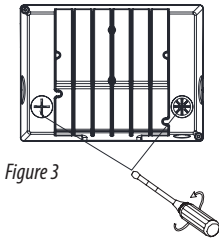

Figure 3
1. Open the metal plug and plastic plug counterclockwise with a screwdriver (Figure 3), then slide the switch up and down to adjust the power controller, CCT selector or photocell controller for your application. (Figure 4)